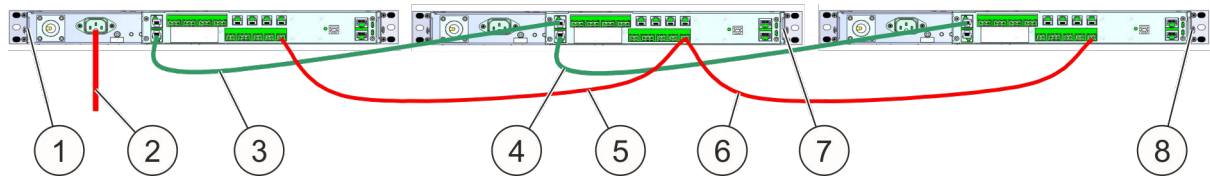

Fig. 35: Energy supply and data line
1. ➔ Connect the mains supply (Fig. 35/2) of 100 – 240 V/AC to the Master (Fig. 35/1).
2. ➔ Establish the power supply (Fig. 35/5) between Master and first Slave (Fig. 35/7). See also Chapter 3.3.6 „Power supply” on page 25.
3. ➔ Establish the power supply (Fig. 35/6) between first Slave and next Slave (Fig. 35/8).
5. ➔ Connect the *CAN bus connecting cable (Master/Slave)* (Fig. 35/3) between Master and first Slave.
6. → Connect the *CAN bus connecting cable (Master/Slave)* (Fig. 35/4) between first Slave and next Slave.